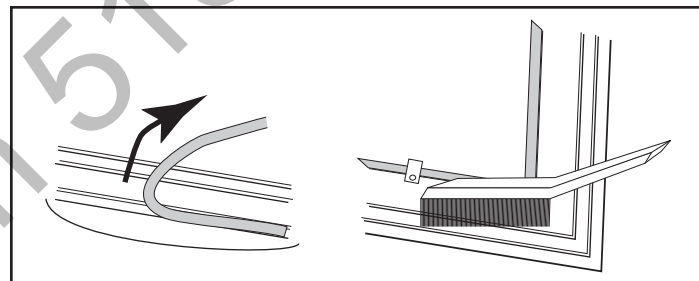

Figure 37 - Remove gasket, then clean channel with wire brush.
1. Remove the existing gasket by grasping an end and pulling firmly. (Figure 37)